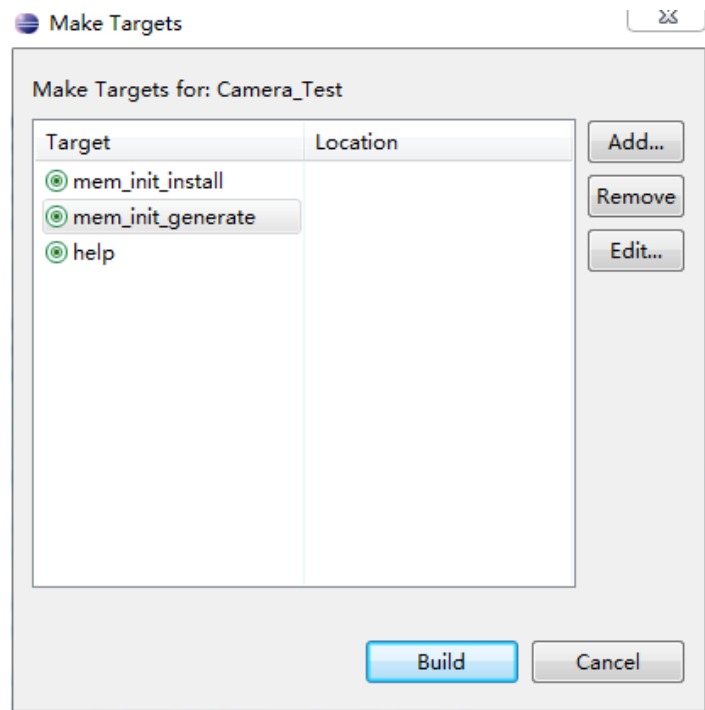

Figure 7-11 Make Target Setting
- Compile the target into initial flash format by choosing the mem_init_generate option in the Make Target window in Eclipse as shown in **Figure 7-11**.